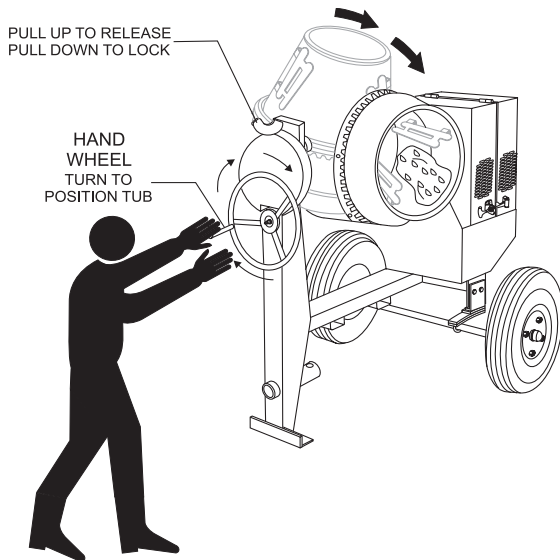

Figure 19. Mixing Drum Positioning
1. To position the tub, make sure the mixer is placed on firm level ground, then **pull up** on the **dump latch** (Figure 19) and turn the **hand wheel** until the tub is at the desired position. Once the tub is at the desired position, **pull down** on the dump latch to lock the tub in position.